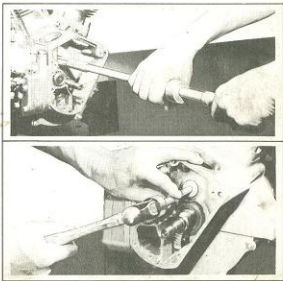

Figure 3-34. Removing and Installing Cam Gear Needle Bearing
2. Inspect oil screen (4) carefully to make sure mesh is open. Holding screen to light is not an absolute check. It is possible for oil screen to be plugged or partially plugged with tiny lint-like fibers and still permit light to pass. Replace plugged or partially plugged screen.
4. Inspect cam gear oil seal (35) in cover to see that lip is in good condition.
6. Inspect needle bearing (36) for wear, broken or gouged bearings. If end of camshaft shows any appreciable wear (.003 in. or more), needle bearing is probably worn to a point where replacement of bearing and camshaft are advisable.
7. Needle bearing can be removed and installed in crankcase without disassembling crankcase with Puller Tool, Part No. 95760-69 as shown in Figure 3-34. Press needle roller bearing into crankcase with Puller Tool, Part No. 97272-60 as shown in Figure 3-34. Press from heavier end having the manufacturer's name only. Pressing from opposite end will crush roller race and bind rollers. Pinion shaft main roller bearing may be replaced only when crankcase is disassembled (see "Disassembling Crankcase.")